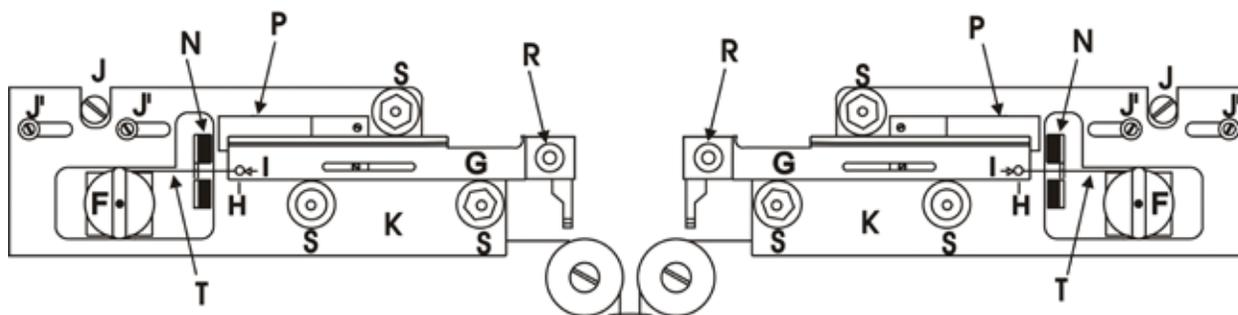

Figure 1-2. Upper Cable Pulley Assembly
This assembly conducts the PULLING CABLES (item **T** in Figure 1-2) from the PULLER BARS (**G**) to the centrally located (and concealed) LOWER CABLE PULLEY ASSEMBLY. Note that the UPPER CABLE PULLEY ASSEMBLY is attached to its panel by two screws, in slots (**J'**), and contains a large eccentric adjustment screw (**J**). This eccentric screw is used to adjust cable “tension”. Its use is covered in the maintenance section.
PANELS, LEFT & RIGHT (K in Figure 1-2) The panels are the angled surfaces that provide mountings for the PULLER BARS (**G**) and their BEARINGS (**S**); the SPRING STOPS (**P**); the BUMPERS (**N**); and the UPPER CABLE PULLEY ASSEMBLIES (**F**). Note the three socket-head cap screws that attach each PANEL to the top (**J** and **J'**). These screws are used to align the PULLERS BARS. Their use is covered in Chapter 5 (MAINTENANCE).
BUMPERS (**N** in Figure 1-2) The BUMPER stops the motion of its associated PULLER BAR (**G**), and prevents impact forces from breaking pipettes.
SPRING STOPS (**P** in Figure 1-2) The SPRING STOPS are one-way catches that prevent pipette tip collision by catching the PULLER BARS (**G**) as they rebound off the BUMPERS (**N**).
PULLER BARS (**G** in Figure 1-2) This assembly consists of the puller bar, glass clamp, clamping knob (**R**) and cable retaining screw (**H**). The puller bar is made of mild steel and coated with a controlled thickness of hard chrome. Glass is loaded into the groove near the tip of the puller bar and is held in position by tightening down the clamping knob (**R**). The cable retaining screw (**H**) holds the cable in a shallow groove (**I**) at the end of the puller bar, and forms the “resistance” against which the cable ends pull.
V-BEARINGS (S in Figure 1-2) These bearings are the guides for PULLER BAR motion. They are made of stainless steel and should NEVER be oiled (see maintenance section). These bearings are mounted on stainless steel bushings, one of which is round with the other two being hexagonal. The hexagonal bushings are used to adjust position and ease of travel of the PULLER BARS (see Chapter 5 (MAINTENANCE)). Note that the V-bearings MUST have a significant amount of play for the puller bars. Under no circumstances must the play be eliminated, as this may irreversibly damage the puller bars!
PULL CABLE (T in Figure 1-2) This cable conducts the pulling force of the solenoid to the PULLER BARS (G) via the UPPER (F) AND LOWER PULLEY ASSEMBLIES. It is made of flexible metal with a nylon coating. Never pinch or distort the cable. The cable is terminated with crimped-on clamps or “swages”. Note that the cable is mechanically connected to the puller bar by the cable retaining screw (H), not by the swage. Should the swage point out of the plane of the puller bar, this indicates that the retaining screw may have become loose, and the puller cable tension needs to be checked (see Chapter 5 MAINTENANCE).